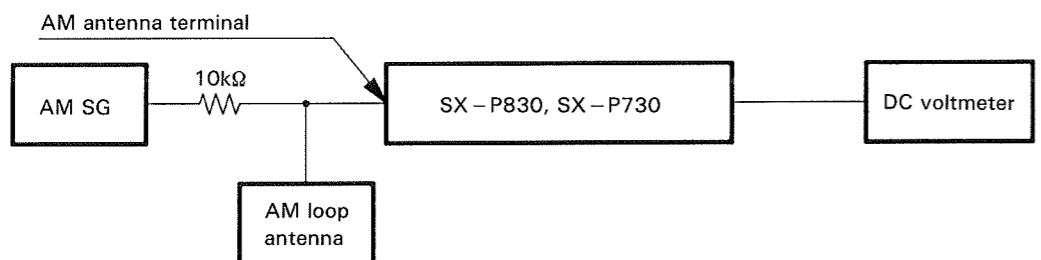

Fig. 7-2 AM (MW) Adjustment Connection Diagram
- Set the mode selector to AM (MW) BAND.
- Connect the wiring as shown in Fig. 7-2.